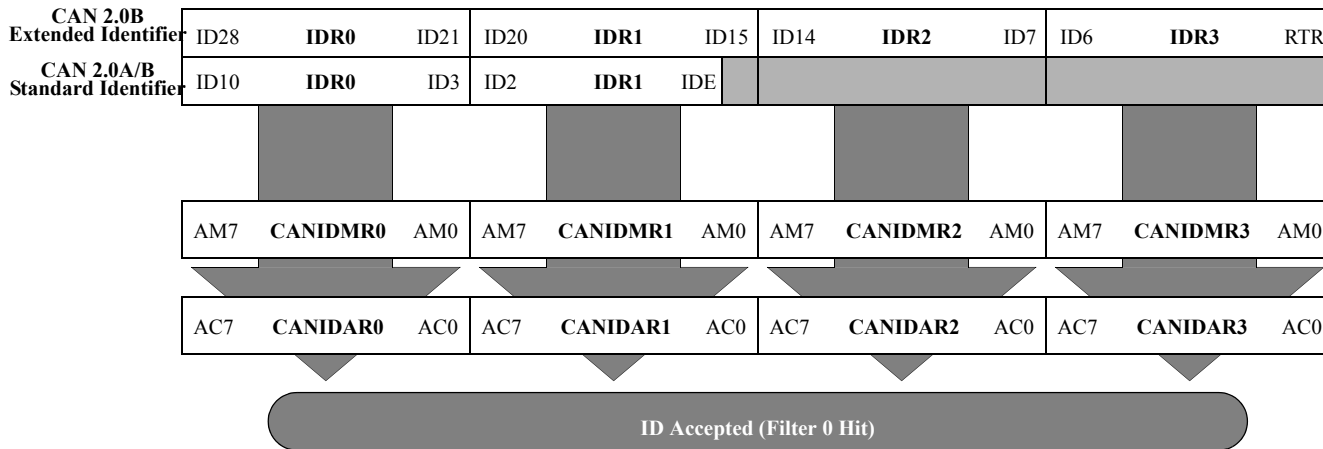

Figure 91. 32-bit Maskable Identifier Acceptance Filter
- The 11 bits of the standard identifier plus the RTR and IDE bits of the CAN 2.0A/B messages. This mode implements two filters for a full length CAN 2.0B compliant extended identifier. Although this mode can be used for standard identifiers, it is recommended to use the four or eight identifier acceptance filters. Figure 91 shows how the first 32-bit filter bank (CANIDAR0–CANIDAR3, CANIDMR0–CANIDMR3) produces a filter 0 hit. Similarly, the second filter bank (CANIDAR4–CANIDAR7, CANIDMR4–CANIDMR7) produces a filter 1 hit.